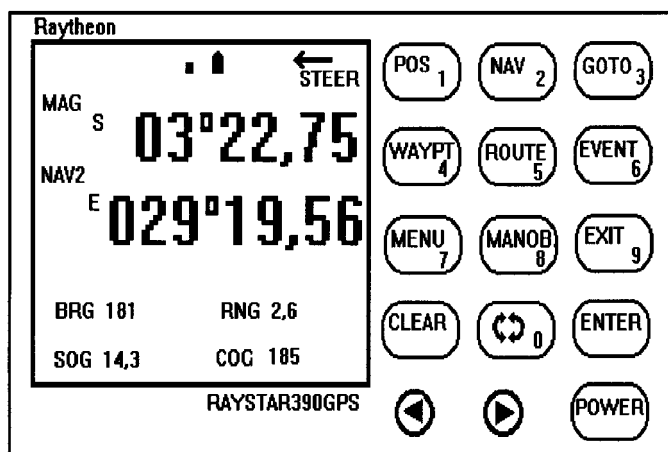

Figure 3: GPS in GOTO mode.
4) Recorder presses once the **CLEAR** key. The left digit in the number of '**Goto ent**' starts to flash (Figure 3).
2) He presses first the **GOTO** key and then the **CLEAR** key. '**Goto ent**' title starts to flash (Figure 3)